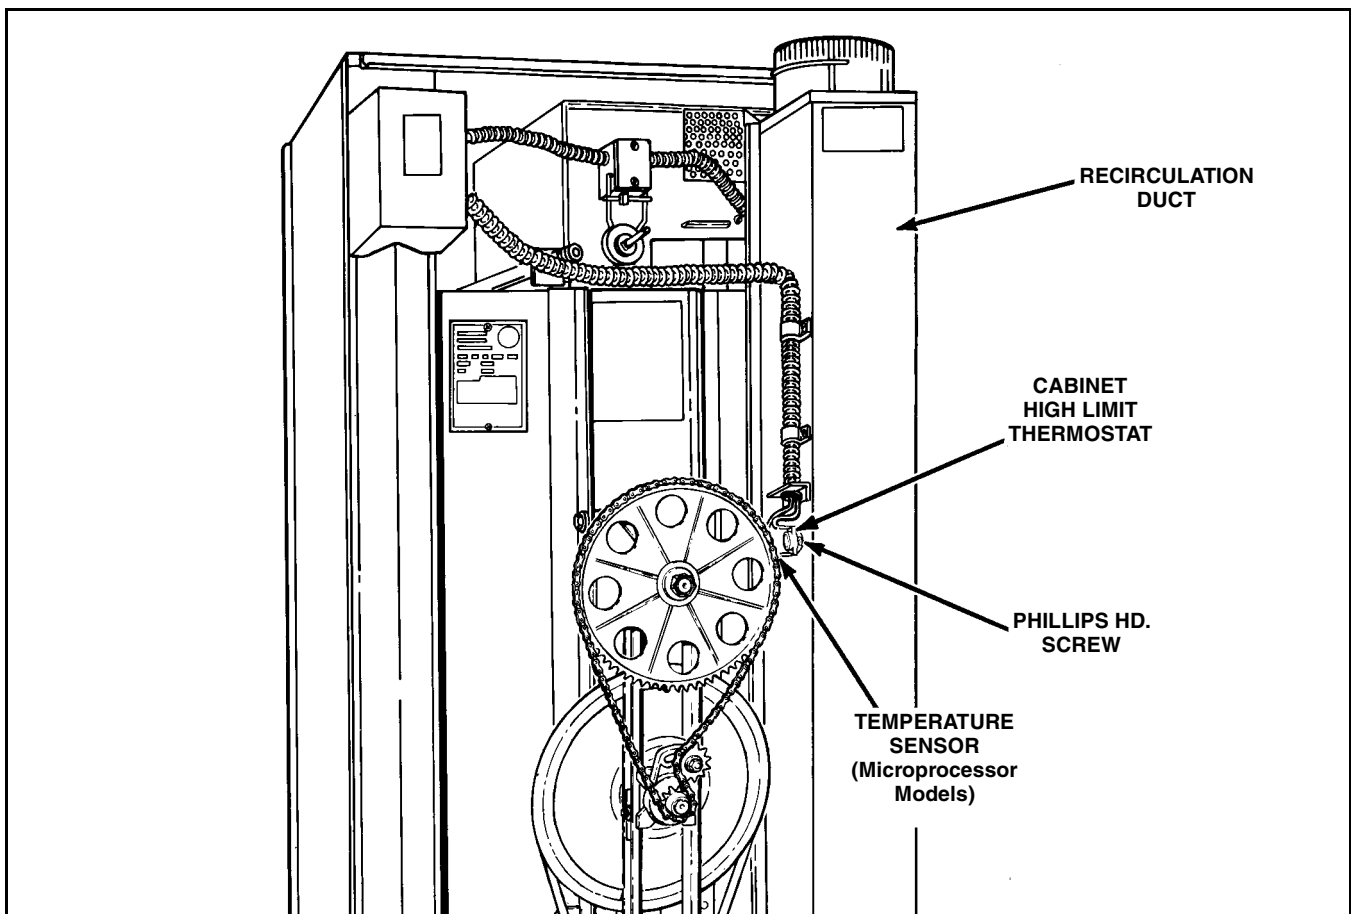

Figure 19
- Remove two wires from the sensor terminals. Refer to *Figure 19*.
- Remove two screws (and washers) holding sensor to recirculation duct. Remove sensor. Refer to *Figure 19*.
- Remove sensor from recirculation duct. Refer to *Figure 19*.
- Remove two wires from thermostat terminals. Refer to *Figure 19*.
- Remove two screws holding thermostat to cabinet. Refer to *Figure 19*.